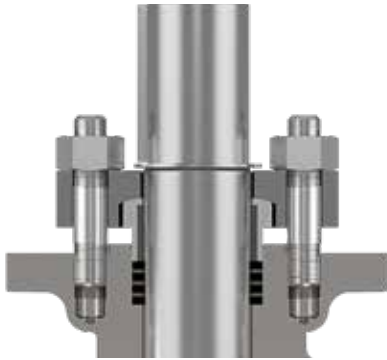

Figure 5
22. Install one number of 'Graphite packing ring (thick)' & 'Diffusion barrier ring (thin)' (#13) over the Stem (#4), as shown in Fig.5
27. Cycle the Stem (#4) in full five (5) times from open to closed and back, making sure that the ball goes back to the original assembly position where side "A" matches with seat "A" as per ISO 5211.